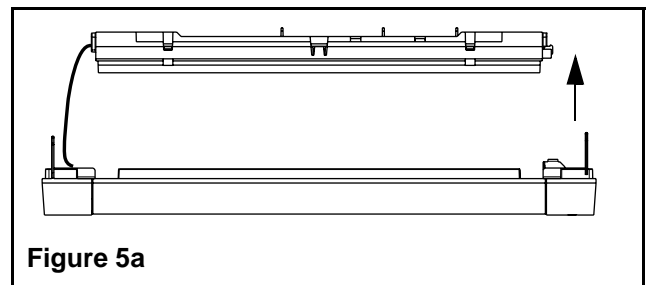

Figure 5a
2. Recessed wall-mount installation (Figures 5a,b,c)